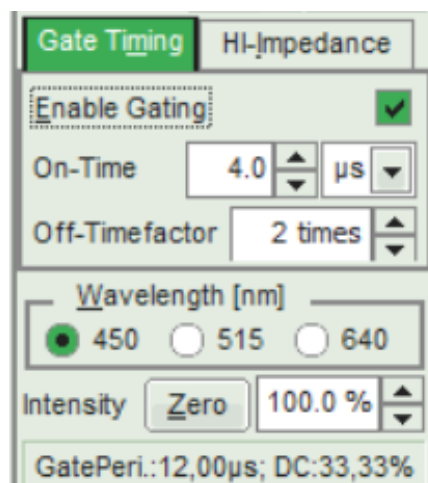

Figure 18: Gating Timing options
- The time in which the laser emission is kept off is defined by the value in the **Off-Timefactor** edit box, see Fig. 18. The **Off time** is the **On-Time** value multiplied by the **Off-Timefactor**. The resulting duty cycle and period time is displayed at the bottom.